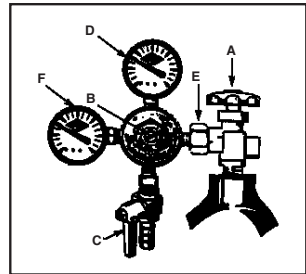

Fig. 12
1. Close the main cylinder valve (A) by turning in a clockwise direction. **See Fig.12**
2. Close the secondary shut-off valve (C) by turning to "horizontal" (east/west) position on lower stem pipe. **See Fig.12**
4. Remove the regulator assembly (E) from empty cylinder. **See Fig.12**
6. Re-attach regulator assembly (E) to new/replacement cylinder. **See Fig.12**
8. Slowly open main valve (A) all the way. **See Fig. 12**
9. Readjust regulator pressure (D) (if necessary) between 10 ~ 12 psi/lbs.
10. Open the secondary shut-off valve (C) by turning to "vertical" (north/south) position on lower stem pipe.